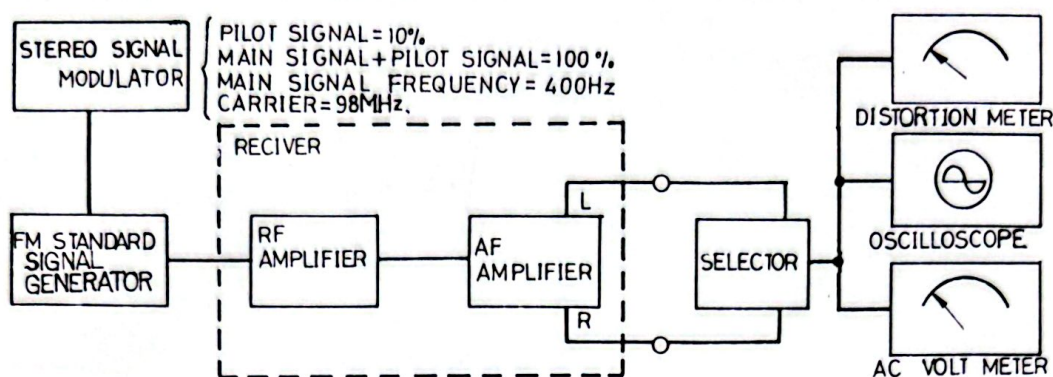

Fig. 14
4. A Connect V. T. V. M., oscilloscope & distortion meter to speaker terminal thru. the SELECTOR (See Fig. 14, 15).